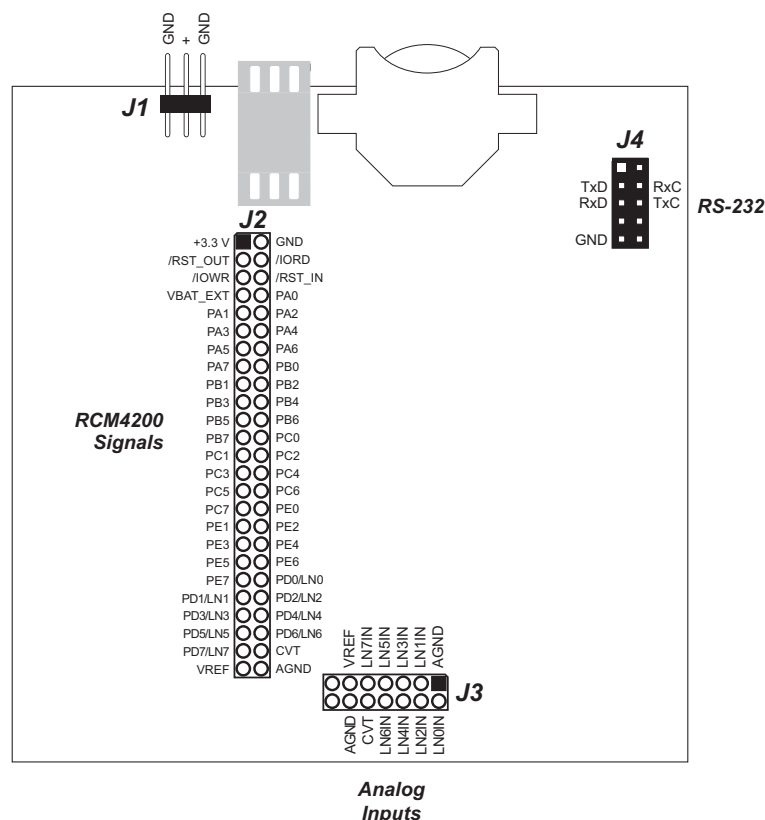

Figure B-4. Prototyping Board Pinout
- **Module Extension Header**—The complete pin set of the RCM4200 module is duplicated at header J2. Developers can solder wires directly into the appropriate holes, or, for more flexible development, a 2 × 25 header strip with a 0.1" pitch can be soldered into place. See Figure B-4 for the header pinouts.
- **Analog Inputs Header**—The Prototyping Board's analog signals are presented at header J3. These analog signals are connected via attenuator/filter circuits on the Prototyping Board to the corresponding analog inputs on the RCM4200 module. Developers can solder wires directly into the appropriate holes, or, for more flexible development, a 2 × 7 header strip with a 0.1" pitch can be soldered into place. See Figure B-4 for the header pinouts.
The Prototyping Board provides the user with RCM4200 connection points brought out conveniently to labeled points at header J2 on the Prototyping Board. Although header J2 is unstuffed, a 2×25 header is included in the bag of parts. RS-232 signals (Serial Ports C and D) are available on header J4. A header strip at J4 allows you to connect a ribbon cable, and a ribbon cable to DB9 connector is included with the Development Kit. The pinouts for these locations are shown in Figure B-4.